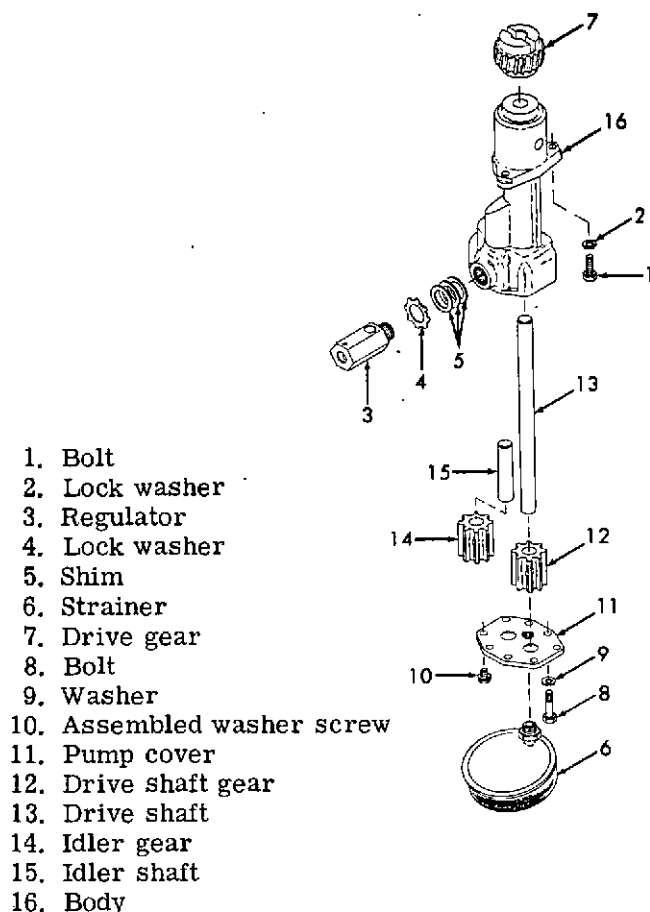
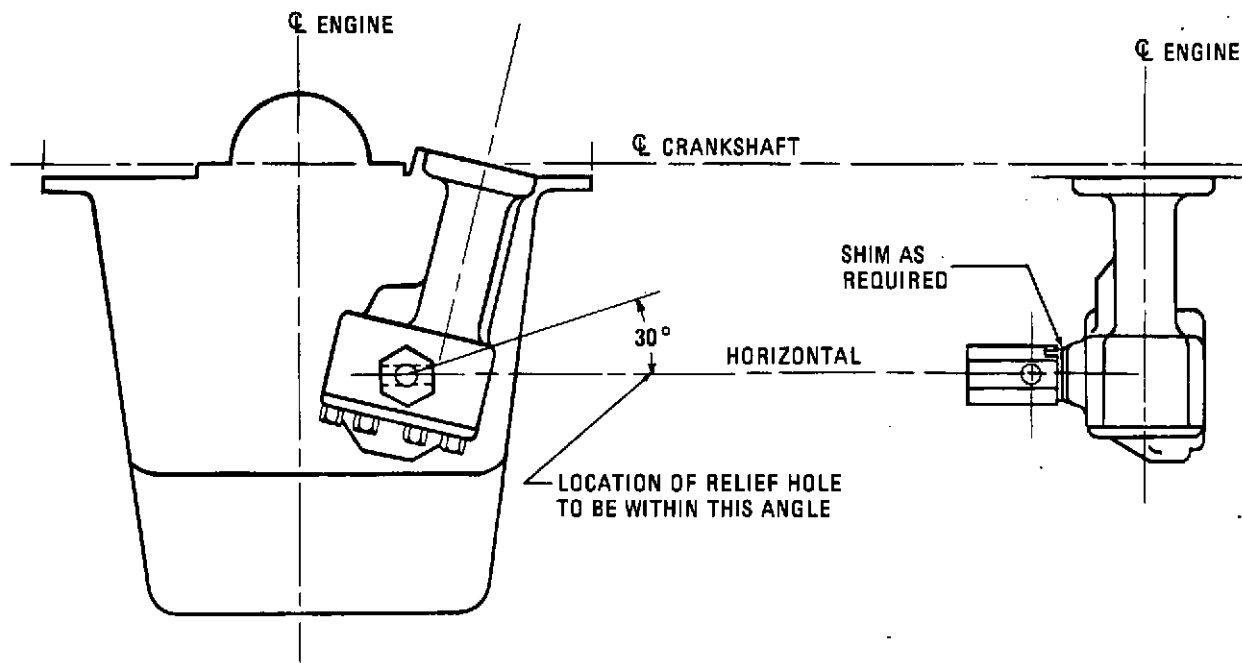

Figure 5-4. Oil Pump, Exploded View
Figure 5-7. Oil Pressure Regulator Installation
5. Remove the two attaching bolts (1, figure 5-4) and lock washers (2) from the pump flange and pull the oil pump from the engine.
3. Install the idler shaft (15, figure 5-4), if removed, and install the idler gear (14).
4. Install the pump cover (11) and secure with bolts (8), assembled washer screws (10), and washers (9). Tighten the bolts progressively and evenly.
6. Secure the pump with two bolts (1, figure 5-4) and lock washers (2). Tighten the bolts securely, but not excessively.
7. Install the oil pump strainer (6) on the pump cover by turning in clockwise. Do not apply force against the screen.
8. Install the 65 psi oil pressure regulator (3) with a new lock washer (4). The regulator, when mounted on the pump, must be turned so that the relief hole is aligned within  $30^\circ$  of horizontal (see figure 5-7). This position will prevent oil from spraying up into the cylinder bore, and will direct the spray toward the center of the engine and against the oil pan surface. If the oil pressure regulator is in an incorrect position when tightened, add shims (5, figure 5-4) until the proper alignment is achieved.